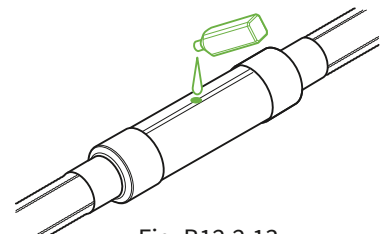

Fig. B12.2.13
13. Carefully mix the PUR liquid components (follow the instruction on Paragraph B12, ensuring that all of the safety equipment is used). Carefully pour the mixed liquids into the hole in the Heat Shrink Sleeve (Fig. B12.2.13).